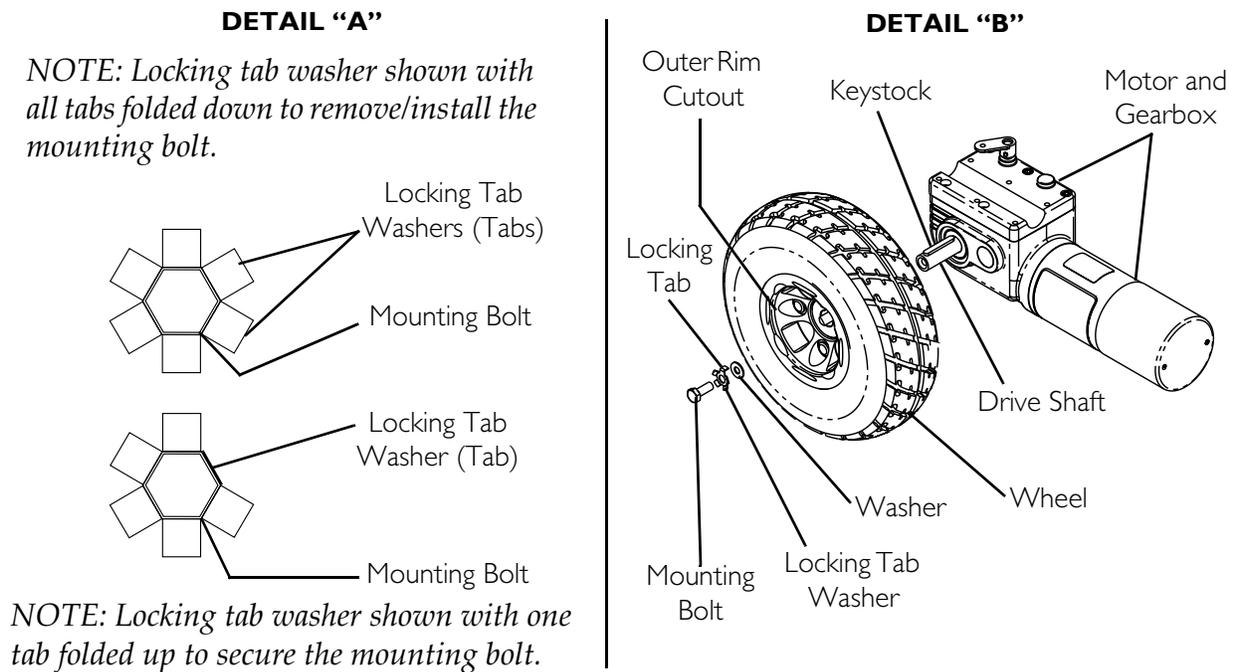

FIGURE 9.4 Removing/Installing the Drive Wheel
NOTE: For this procedure, refer to FIGURE 9.4 on page 85.
1. Fold down tab of existing locking tab washer (Detail “A” of FIGURE 9.4).
2. Remove mounting bolt and locking tab washer (Detail “B” of FIGURE 9.4). Discard existing locking tab washer.
NOTE: Ensure keystone is in the cutout on the drive shaft (Detail “B” of FIGURE 9.4). The keystone MUST line up with the wheel hub cutout.
2. Align the keystone in the drive shaft with the cutout in the wheel hub and position the wheel on to the drive shaft (Detail “B” of FIGURE 9.4).
NOTE: The locking tab of the locking tab washer MUST be inserted into the cutout in the rim and hub (Detail “B” of FIGURE 9.4).
3. Using the mounting bolt, washer and new locking tab washer, secure the wheel to the drive shaft (Detail “B” of FIGURE 9.4).
4. Fold one tab of the locking tab washer up so that the tab rests against one side of the mounting bolt (Detail “A” of FIGURE 9.4)